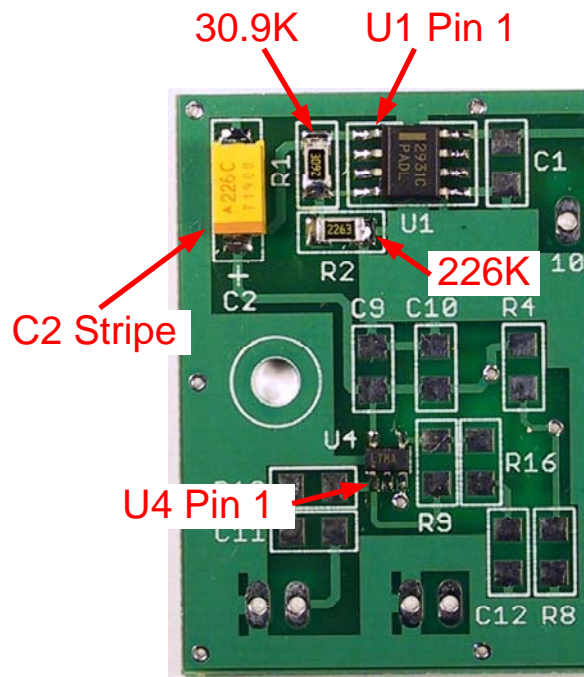

Figure 3. C2, R1, R2, U1, U4 Locations
- ☐ Remove U1, LM2931, from the bag 2. The IC has a broad band at the pin 1 end. Refer to **Figure 3** for placement. Position it squarely over the U1 pads and tack down pin 1. Inspect the positioning to make sure all of the IC leads rest squarely over the remaining pads. Once you are satisfied with the placement, solder pin 5 to lock the position, then solder the remaining pins. Inspect your work carefully to make sure all of the joints resemble the photo.
- ☐ Remove one of the LT1395CS5 chips from Bag 2. Save the other for Side B. This IC is marked LTMA. Position it over the pads of U4 as shown in **Figure 3** and tack down pin 1. Make sure all of the pins are aligned with the pads and solder pin 4, diagonally opposite pin 1. Solder the remaining pins.
- ☐ Remove C2, 22uF, from Bag 1. It is marked either 226C or 22u. Install is as shown in **Figure 3** with the stripe facing the “+” sign silkscreened on the board.